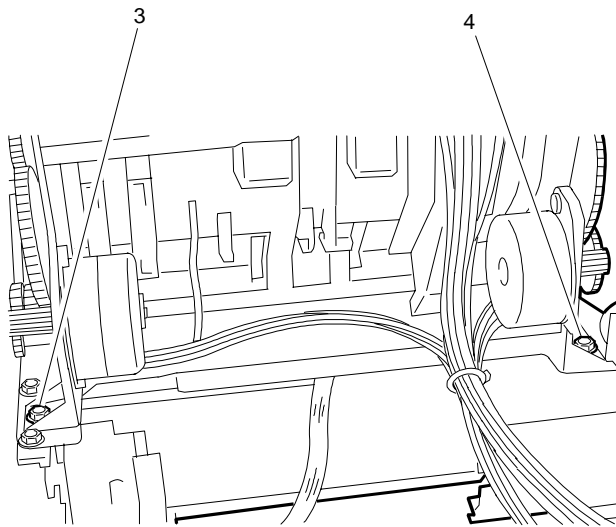
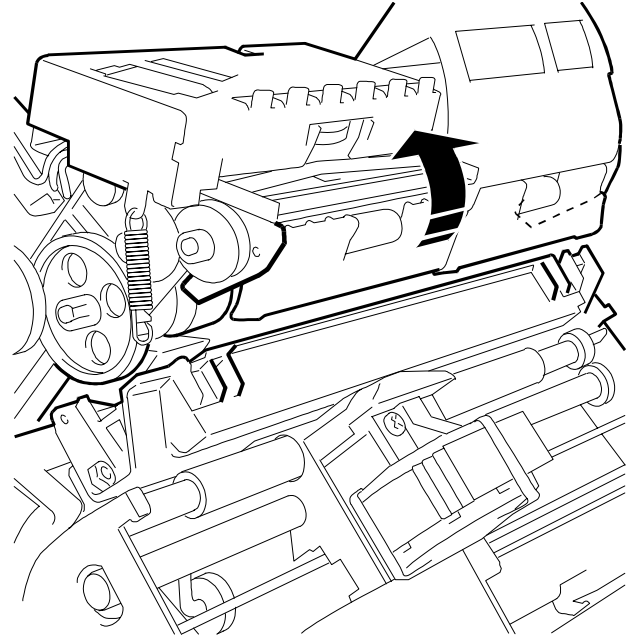

Figure 5-8
Figure 5-7
- Remove screws **3** and **4** (Fig. 5.8). Separate the print unit from the paper feed unit by appropriately rotating them (Fig. 5.7).
- To reassemble follow the disassembly procedures in reverse order giving special consideration to the hooking points shown in the figure (Fig. 5.7).